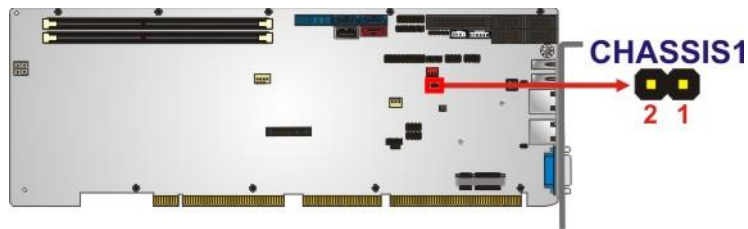

Figure 3-6: Chassis Intrusion Connector Location
- CN Location:** See Figure 3-6